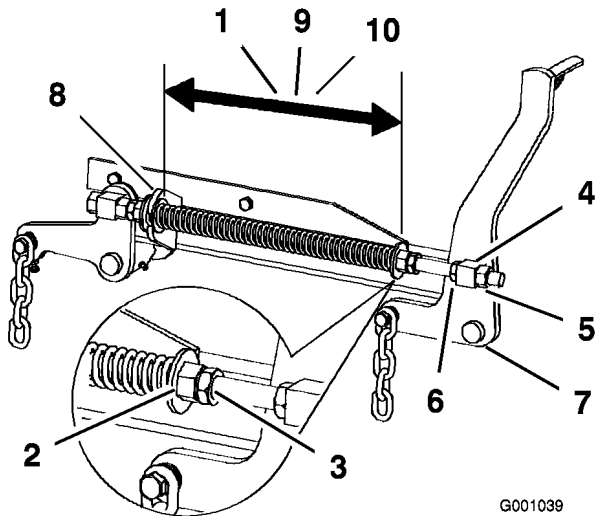

Figure 67
2. Check the distance between the two large washers, it needs to be 11-1/8 inches (28.2 cm) for 52 inch mower decks, 10-1/2 inches (26.7 cm) for 60 inch mower decks or 11-1/2 inches (29.2 cm) for 72 inch mower decks (Figure 67).
3. Adjust this distance, by loosening the spring jam nut and turning the nut in front of each spring (Figure 67). Turning the nut clockwise will shorten the spring; counter-clockwise will lengthen the spring.
4. Lock the nut into position by tightening the spring jam nut (Figure 67).